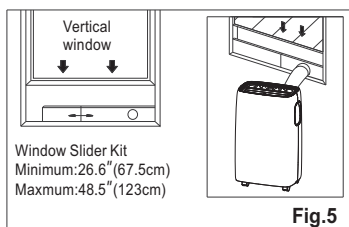

Fig.5
4. Affix the connector A into the window slider kit and seal. (Fig.5&6)